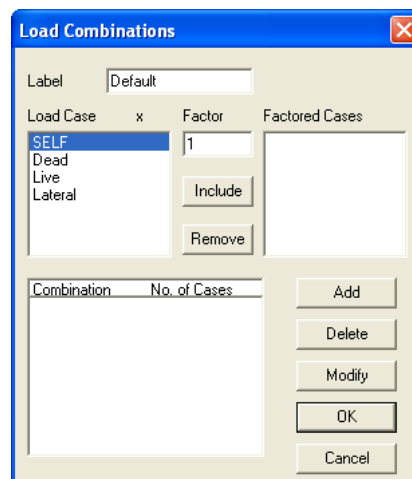

Figure 3-35 Load Combinations dialog box
- From the **Analyze** menu, select **Load Combinations**. The dialog box of Figure 3-35 appears.